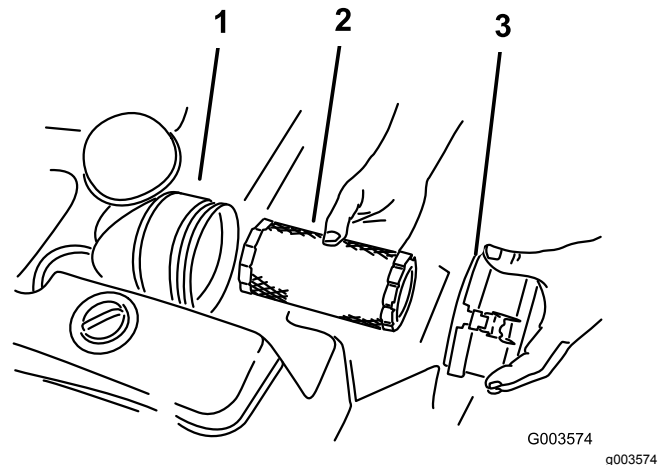

Figure 2
4. Remove the air-cleaner cover and filter (Figure 2).